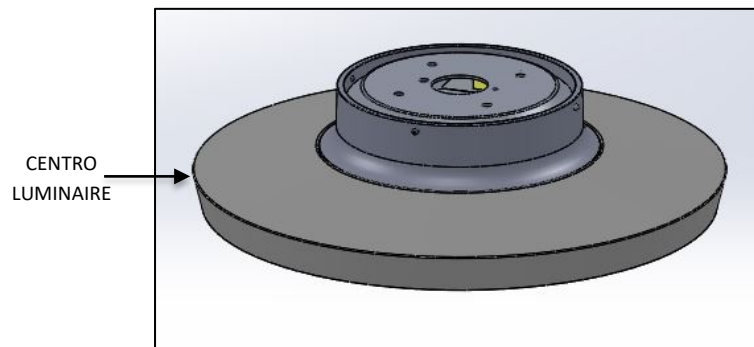

FIG.2 CENTRO LUMINAIRE (PRE-ASSEMBLED)
1. CENTRO LUMINAIRE (Pre-assembled as shown in FIG. 2)